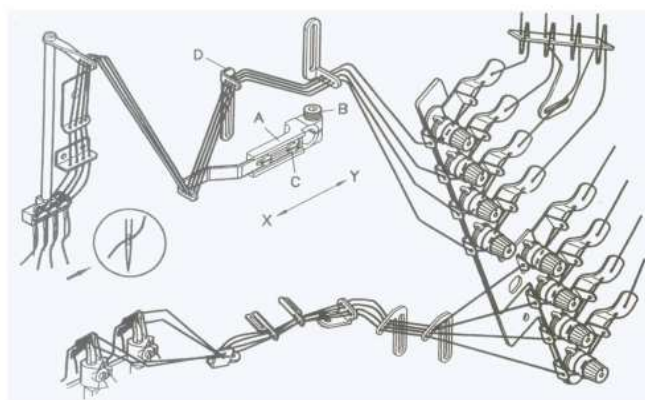

图9 (Fig. 9)
1. Refer to the sewing type you need for correct threading. Any incorrect threading may cause thread brake, uneven stitches or skip stitches. (Fig.9)
1. Thread tension should be adjusted in regarding to kinds of threads fabrics, thickness of fabrics, and stitch length etc. (Fig.9)